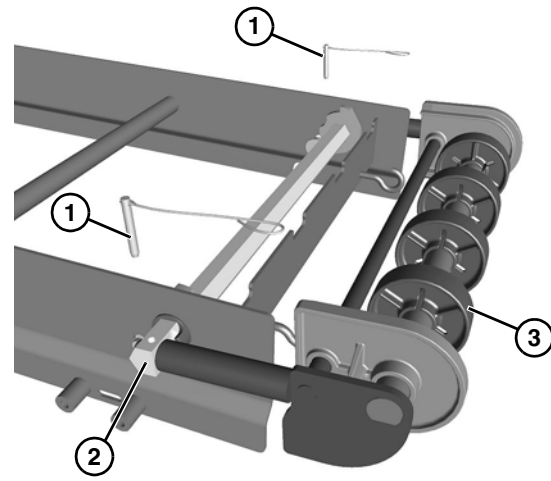

Figure 59
1. Remove the pull pins (Figure 59, item 1) from tip up hex shaft assembly (Figure 59, item 2).
2. Slide the idler tail assembly (Figure 59, item 3) out of the tip up hex shaft assembly.